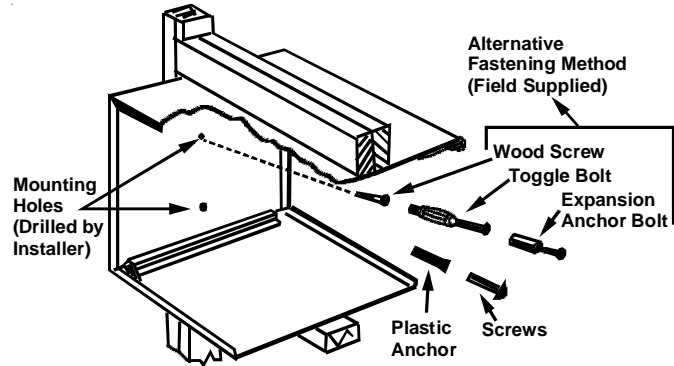

Figure 12 - Wall Sleeve Attachment to Opening
5. Two holes will need to be drilled in both sides of the wall sleeve for mounting into the wall. Drill holes of proper size and in the proper location so the screws will engage into strong supporting members of the wall. **DO NOT DRILL THROUGH BOTTOM OF SLEEVE.** Figure 12 shows possible fastening methods.